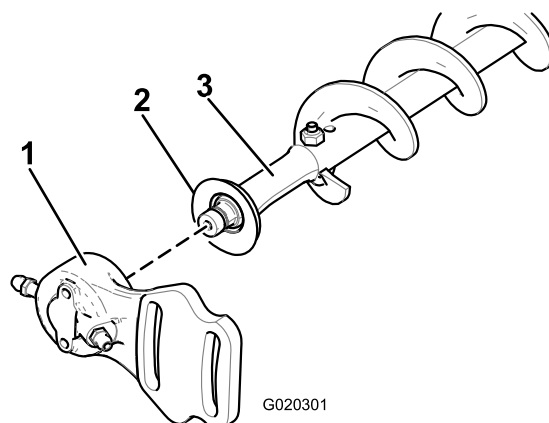

Figure 17
2. Slide the non-drive bearing housing and excluder seal off the brush shaft (Figure 17).